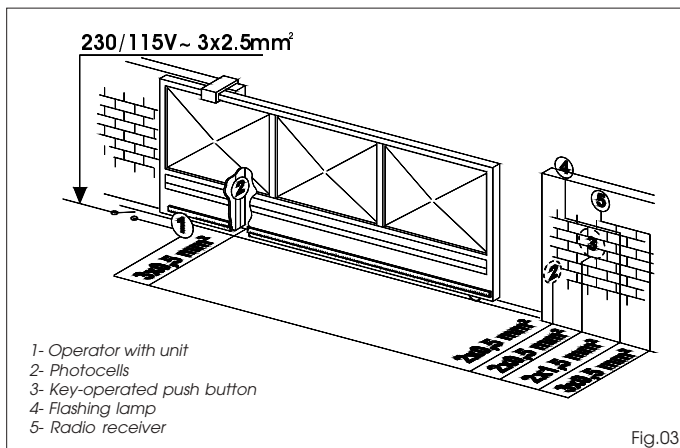

Fig.03
- 4- Lay the electric cables for connection to the accessories and power supply as shown in diagram of Fig. 03. To facilitate connections to the control unit, allow the cables to protrude by at least 50 cm from the hole on the foundation plate.